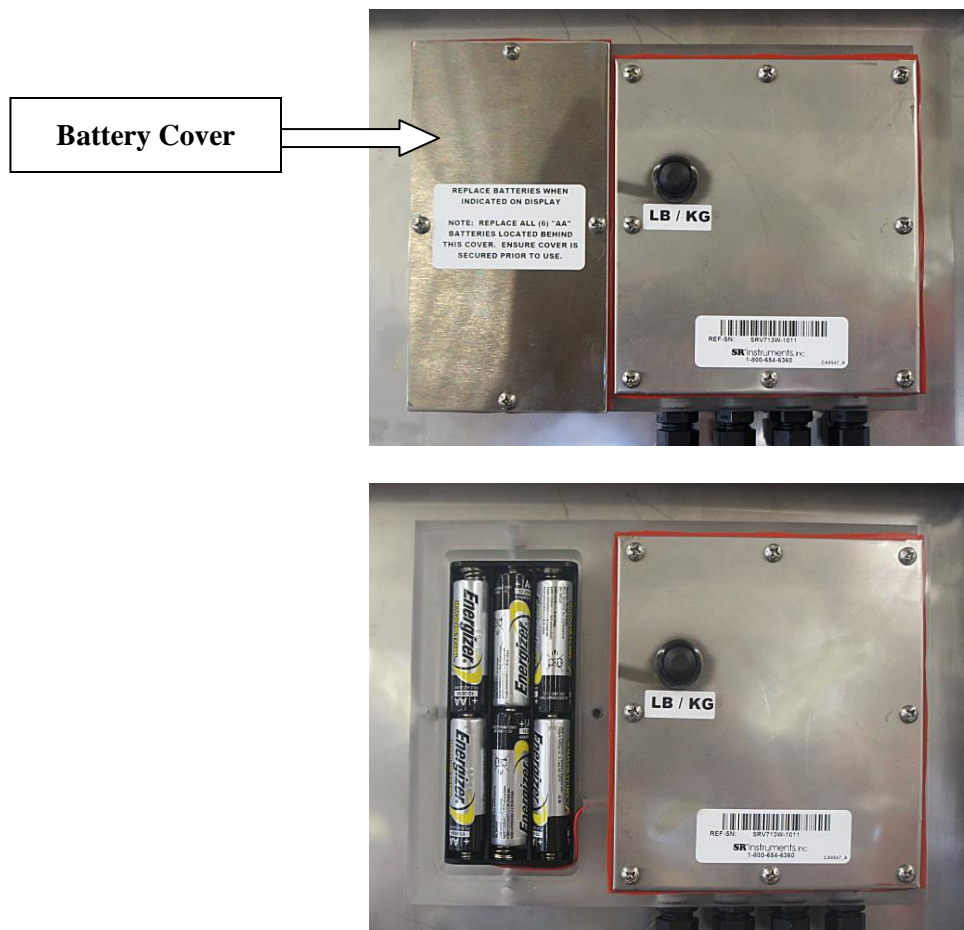

Figure 3: Battery Replacement
STEP 2: Remove the two (2) screws holding the display housing to the platform
STEP 3: Pull the display out from under the platform and remove the eight (8) screws from the display box cover pictured in Figure 3.